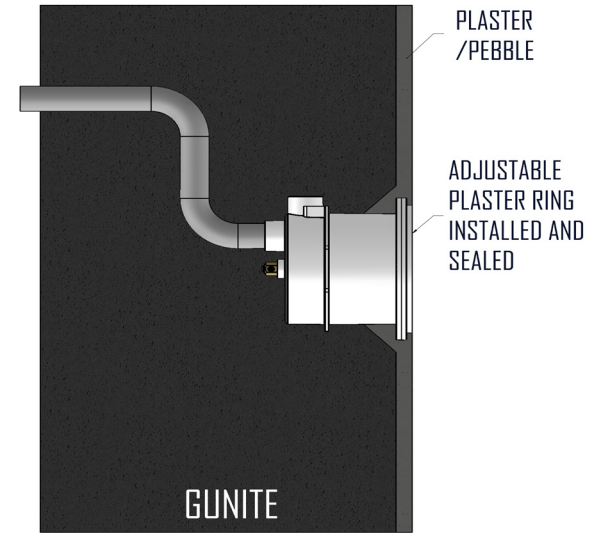

Figure 2
6. Before applying finish remove the gunite shield. Using PVC glue or construction adhesive secure the adjustable plaster ring with integrated Water Stop inside the Lite Star niche, ensure proper depth and alignment. Pool finish should be flush with the front face of the adjustable plaster ring (See Figure 2). Place plaster cap onto the adjustable plaster ring to avoid debris from entering while applying the finish.